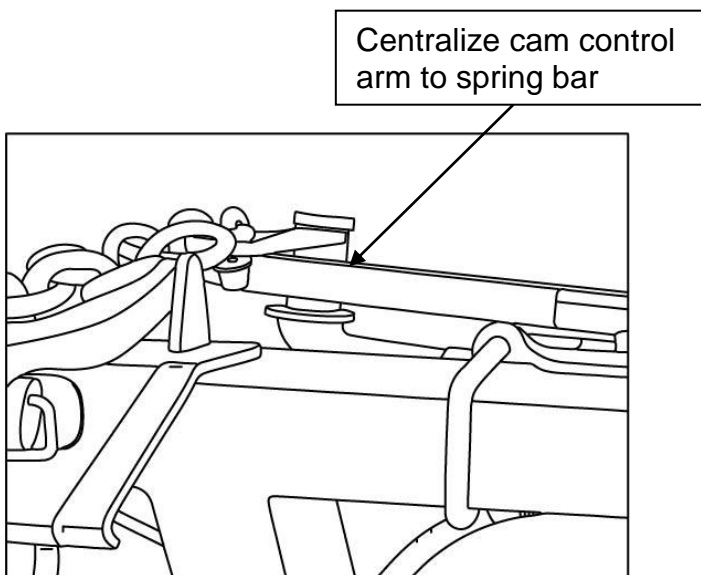

Fig 1
- 3 Re-install spring bar (without tension) and adjust the dual cam controller arm position and angle to sit in the centre of the spring bar ellipse (See Fig 1).